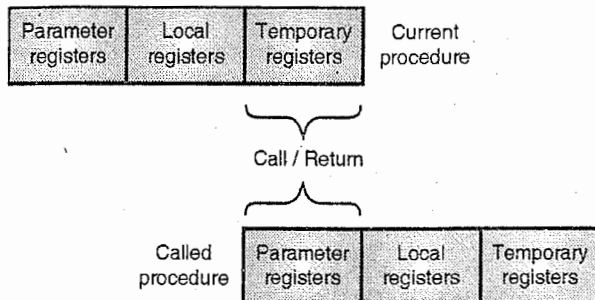

Fig. 1.7.1 : Overlapping register window
- Fig. 1.7.1 shows overlapping register window.